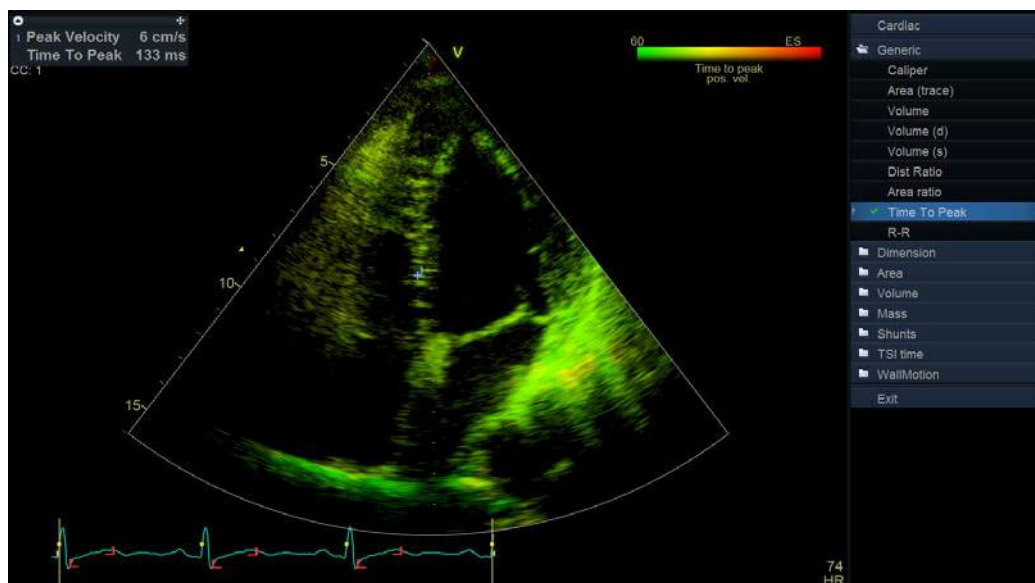

Figure 8-8. TSI Generic Time to peak measurement screen
3. In the *Measurement* menu, select **Generic** and **Time to peak** (see Figure 8-8).